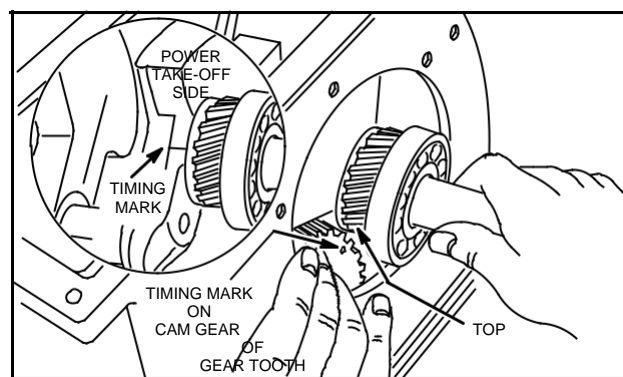

Fig. 887 - TIMING CRANKSHAFT
2. With timing marks aligned, install crankshaft. Use care when installing crankshaft not to damage crankpin, Fig. 887.